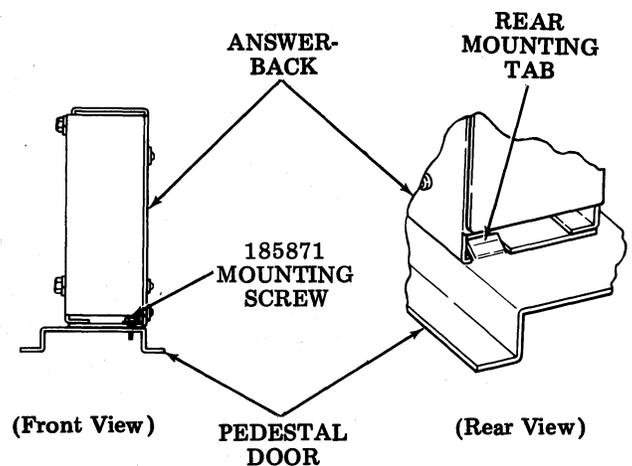

Fig. 28—Pedestal Door Answer-Back Mounting
4.78 Attach the answer-back to the pedestal door using the 185871 screw (Fig. 28). Slide the rear of the answer-back under the tab on the pedestal door and secure the front of the answer-back with the mounting screw.
4.81 Attach the answer-back to the pedestal door using the 185871 screw (Fig. 28): Slide the rear of the answer-back under the tab on the pedestal door and secure the front of the answer-back with the mounting screw.
4.84 Attach the answer-back to the pedestal door using the 185871 screw (Fig. 28). Slide the rear of the answer-back under the tab on the pedestal door and secure the front of the answer-back with the mounting screw.
5.04 Open the front panel on the pedestal. Remove the 185871 mounting screw from the slot in the answer-back mounting tab (Fig. 28). Slide the answer-back forward from under the clip on the rear.